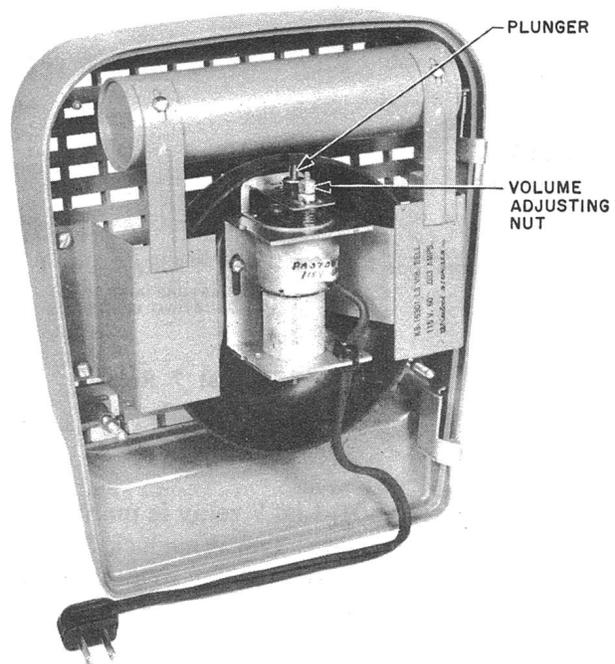

Fig. 7 — KS-16301, List 3 Bell, Vibrating
4.01 The list 3 (vibrating bell) is provided with a volume adjustment. In the signal of one supplier, the volume is controlled by turning a hexagonal nut on the rear of the signal (see Fig. 7). In the product of the other supplier, the volume is controlled by a screw adjustment on the back of the bell resonator. In each signal, the direction of adjustment is stamped near the adjusting nut or screw.